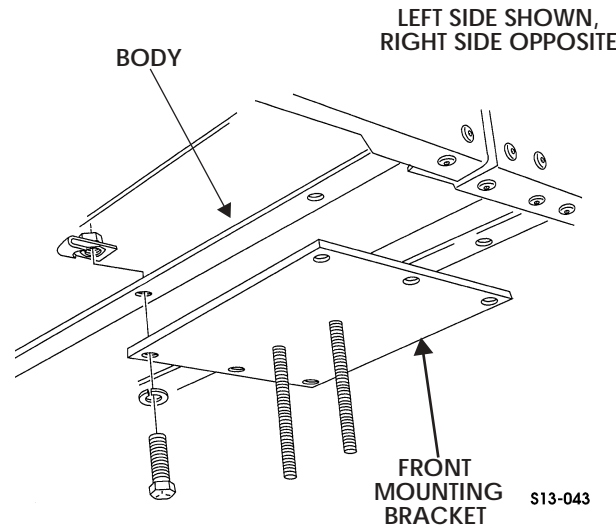

Figure 13-51: Front Mounting Bracket and J-Nut
- Remove four capscrews, lockwashers, J-nuts, and front mounting bracket from body (Figure 13-51).
1. Install front mounting bracket on body with four J-nuts, lockwashers, and capscrews. Tighten capscrews to 29-31 lb-ft (39-42 N•m) (Figure 13-51).